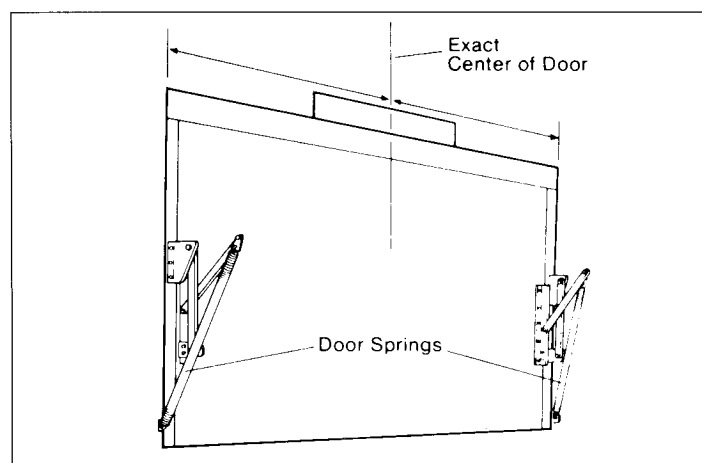

Figure 28
Trackless doors are one-piece doors which employ jamb-type counterbalance hardware as part of the lifting mechanism. They are sometimes called "California" doors. Typically, the one-piece door and its accompanying hardware appear as shown in Figure 28. Note that there is another type of one-piece, trackless door that operates on a pivot. This garage door operator is **not recommended** for use on the pivot type garage door.
Step 61: Establish the exact center of the door and mark that location on the header above the door as shown in Figure 28.